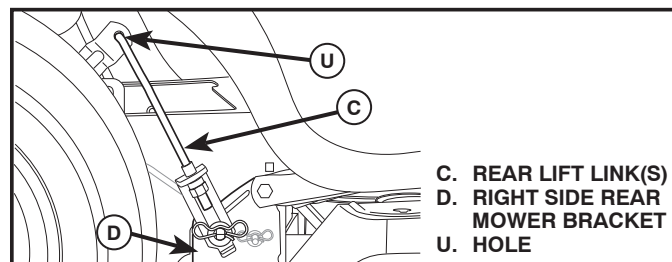

Fig. 9
7. ATTACH REAR LIFT LINKS (C) (See Fig. 9)
- Insert rod end of rear lift link (C) into hole (U) in tractor lift shaft suspension arm and pivot link down to mower.
- Lift rear corner of mower and position slot in link assembly over pin on rear mower bracket (D) and secure with large washer and large retainer spring.